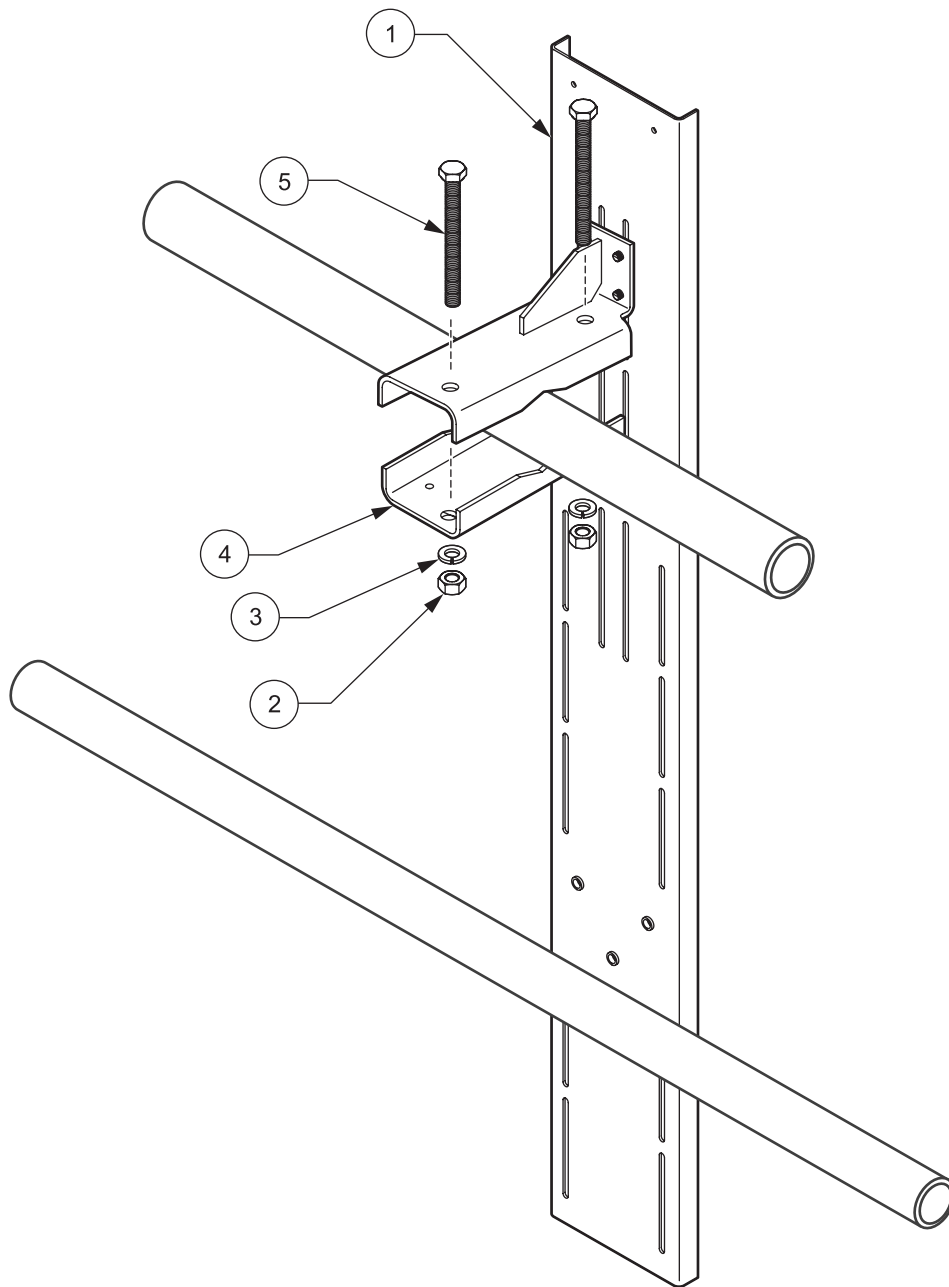

Figure 8 Installing the angle bracket on the top rail
4. Loosely screw a U profile to the angle bracket with the M8 x 120 screws, spring washers and M8 nuts (see Figure 8 on page 8).